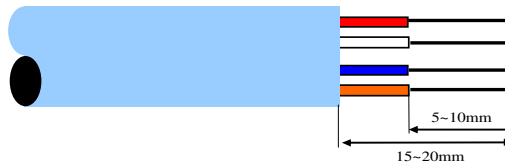

Figure 8.12 – Strip conductor insulation
4. Remove up to 5 mm ~ 10 mm of insulation from each of the four coloured cores and cut the white fortified nylon line, as shown in Figure 8.12 below.